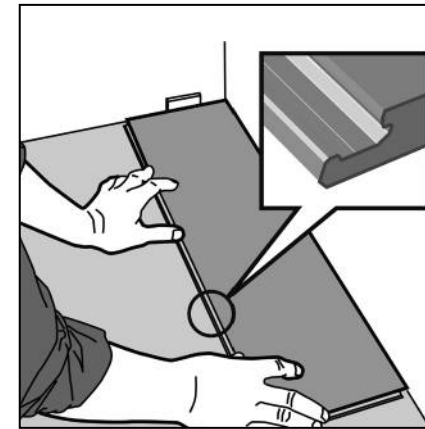

Figure 1 First plank, first row
- > Start to lay the floor in the left-hand corner of the room with the lower edge profile on the long edge facing towards you. (Fig 1)